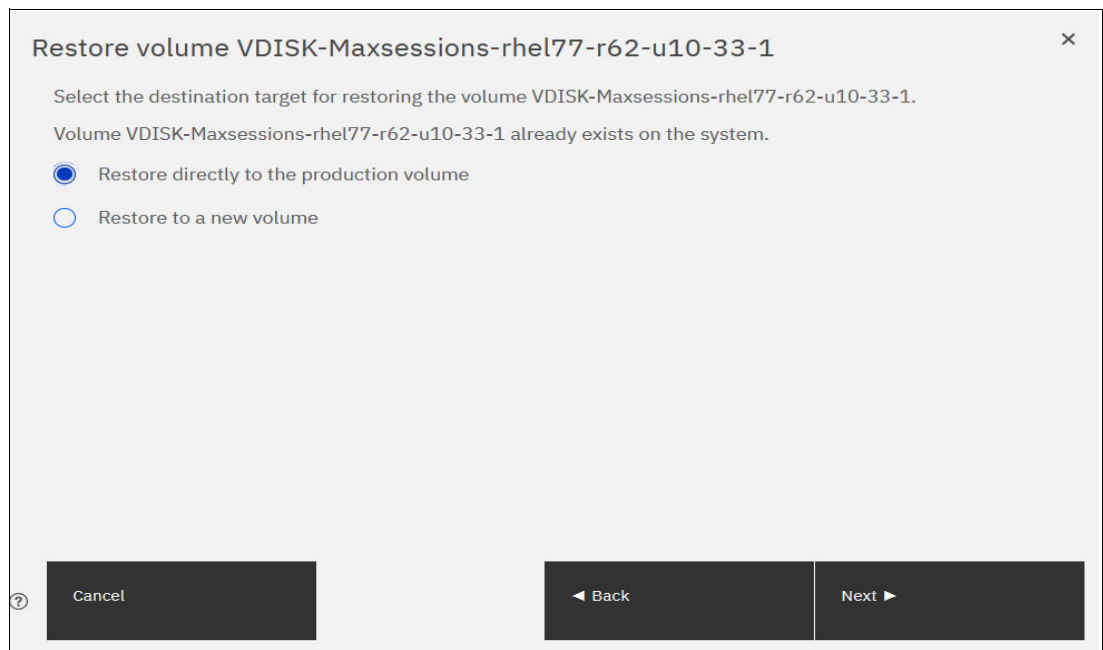

Figure 10-79 Restoring a snapshot on an existing volume or on a new volume
- The IBM Spectrum Virtualize GUI provides two options to restore the snapshot from cloud. You can restore the snapshot from cloud directly to the selected volume, or create a volume to restore the data on, as shown in Figure 10-79. Make a selection and click **Next**.